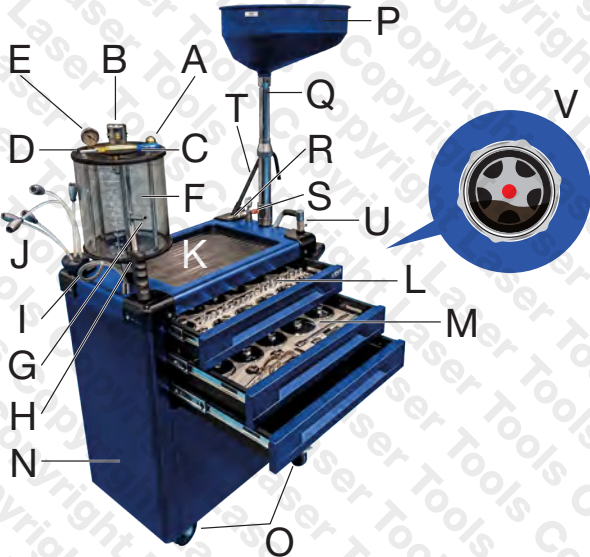

Fig 1
3. Refer to Figure 1: Close waste oil discharge ON/OFF valve (**U**). Close the waste tank air inlet ON/OFF valve (**R**).